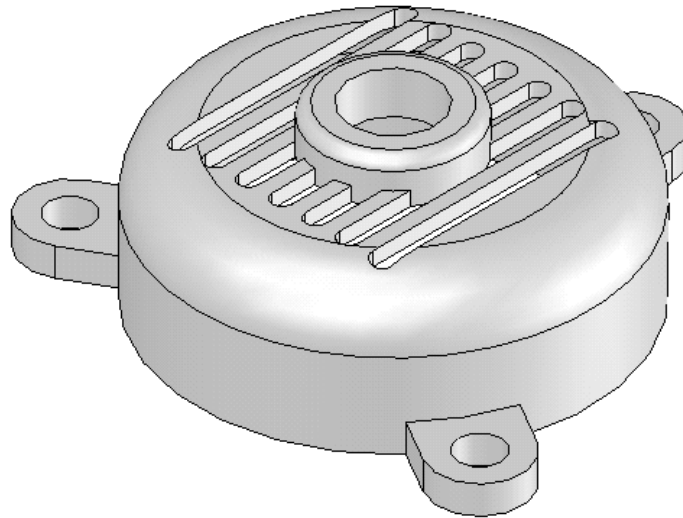
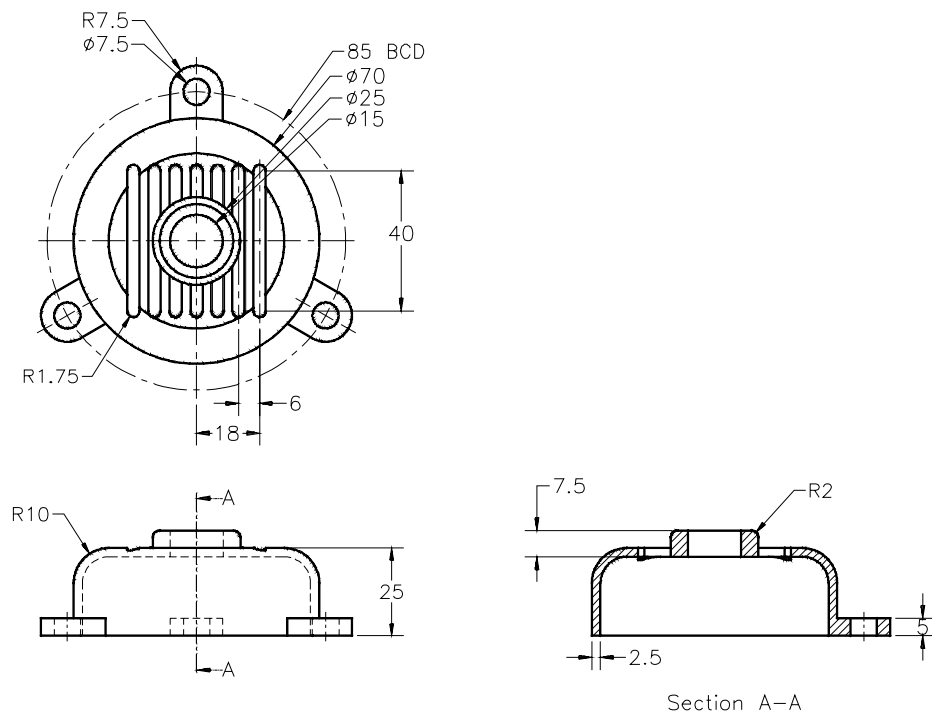
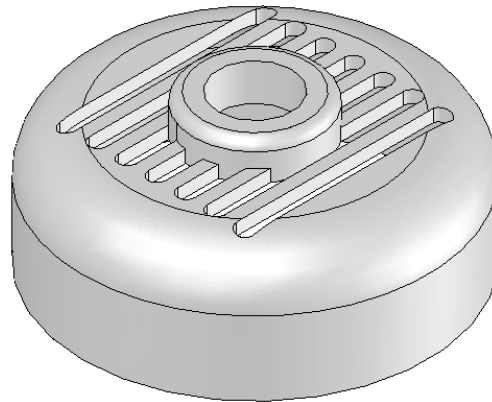

Figure 9-63 Model for Tutorial 3
Figure 9-64 Views and dimensions of the model for Tutorial 3
Figure 9-73 Model after creating other features.
In this tutorial, you will create the model shown in Figure 9-63. While creating it, you will also perform some editing operations on it. The views and dimensions of the model are displayed in Figure 9-64.
- Unsuppress the suppressed features and create the remaining features of the model, refer to Figures 9-73 and 9-74.
The pattern created is not the same as required, refer to Figure 9-63. As a result, you need to edit it.
6. Create the other features of the model. For dimensions, refer to Figure 9-64. The model, after creating the other features, is shown in Figure 9-73.